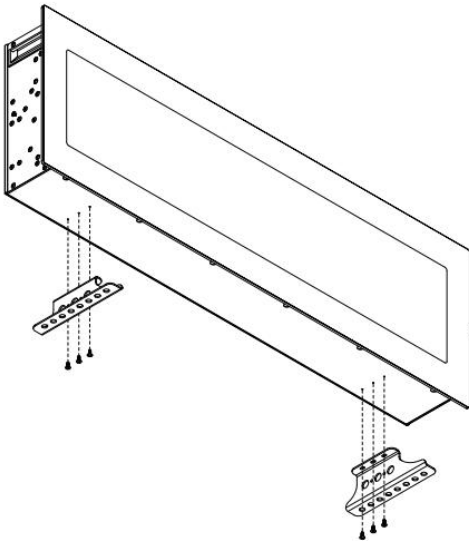

Fig.9
- Lay the heater on the floor or a table, Install the base with 6pcs screws (screws is on the bottom of the fireplace) as provided, please see Fig.9